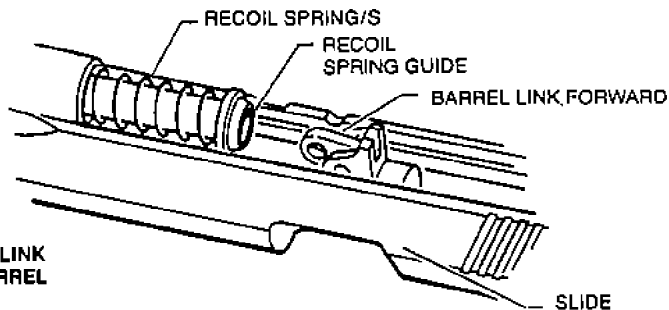

FIGURE 9—ALIGNING LINK
8. **(A & B)** Lift recoil spring and guide and pull them rearward out of slide. (See Figure 9)